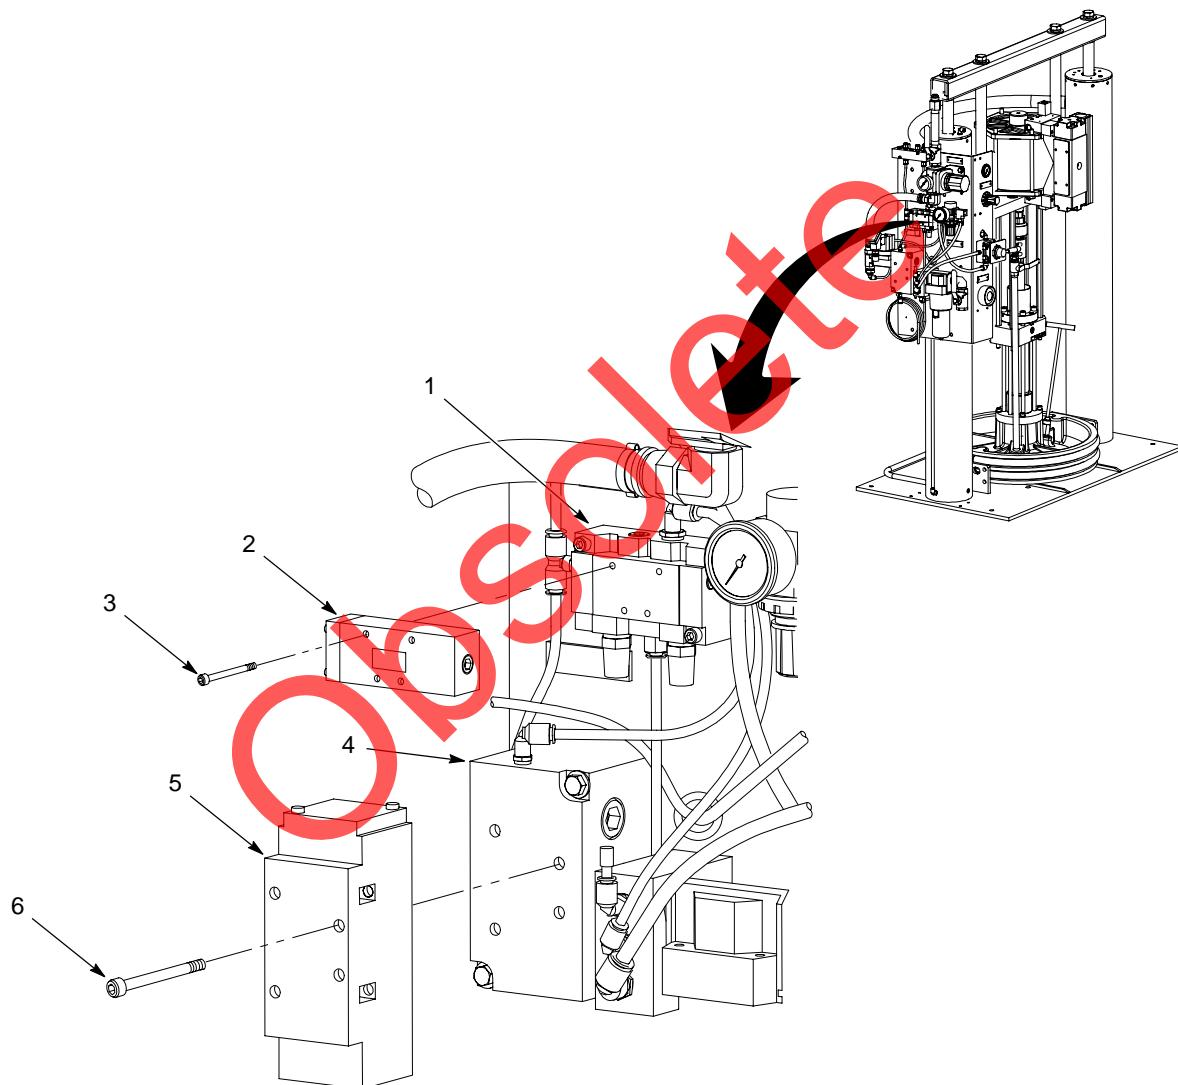

Figure 7 Typical Solenoid Valve and Air Logic Valve Installation
See Figure 7. Install the desired air motor control valve (5) to the valve manifold base (4) using the screws (6). Tighten the screws securely.
See Figure 7. Install the desired air logic valve (2) to the air logic valve manifold base (1) using the screws (3). Tighten the screws securely.